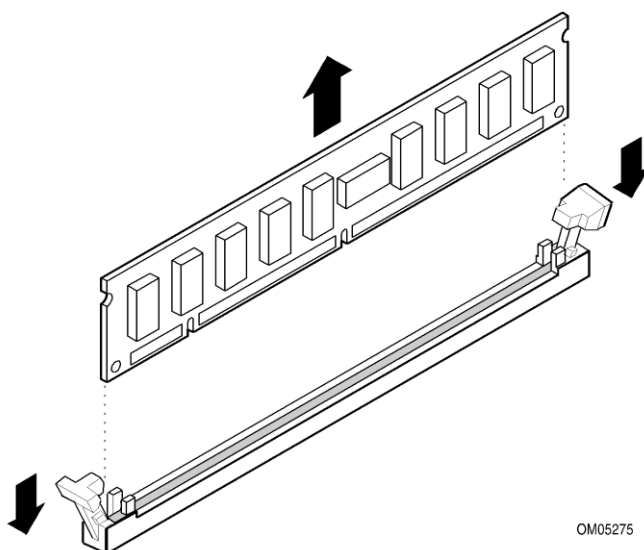

Figure 23: Removing Memory Modules
3. Remove the processor from its protective cover. Hold the processor only at the edges, being careful not to touch the bottom of the processor (see Figure 23).
4. Hold the processor with your thumb and index finger oriented as shown in Figure 23 to align your fingers with the socket finger cut-outs. Make sure that the processor Pin 1 indicator (gold triangle) is aligned with the Pin 1 chamfer on the socket (Figure 23, B) and that the notches on the processor align with the posts on the socket (Figure 23, C). Lower the processor straight down without tilting or sliding it in the socket (Figure 23, A).